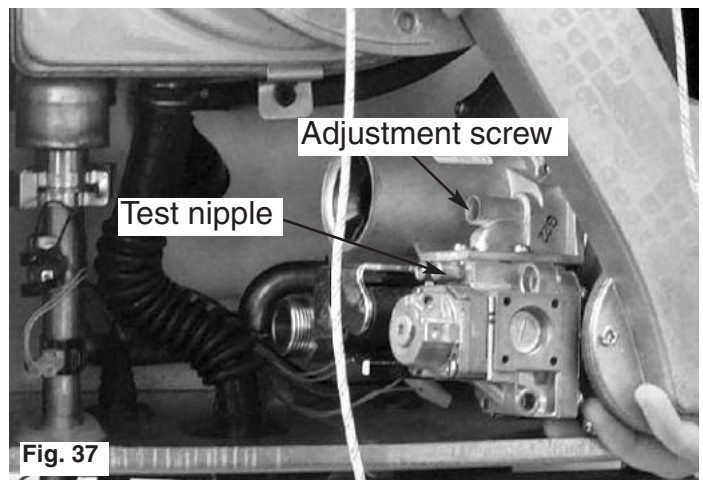

Fig. 37
7. If necessary adjust the screw on the gas valve (Fig. 37) to set the CO₂ to 8.9% +/- 0.2% (NG) or 9.7% +/- 0.2% (LPG);
8. Press the setting button  once to set the combustion control rate mode to minimum, and, if necessary, adjust the screw on the gas valve to set the CO₂ to 8.9% +/- 0.2% (NG) or 9.7% +/- 0.2% (LPG);
9. Press the setting button  again to set the combustion rate control mode to maximum and if necessary adjust the screw on the gas valve to set the CO₂ to 8.9% +/- 0.2% (NG) or 9.2% +/- 0.2% (LPG);